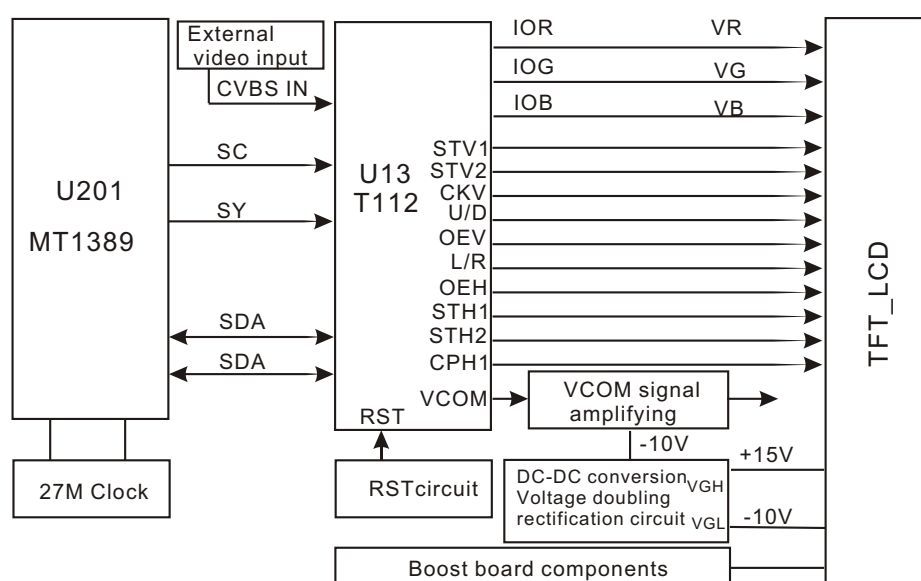

Figure 3.2.9.1 Video coding and LCD—TFT drive circuit block diagram
1. Video coding and LCD—TFT drive circuit block diagram is shown as in the following figure 3.2.9.1: